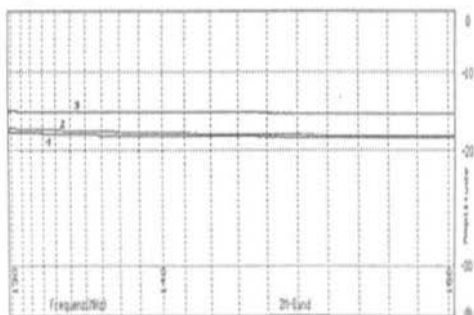

Fig.4 Measured voltage over frequency for: 1) AAZ15; 2) OA90; 3) OA5
If you are interested in higher frequencies you should definitely look at DJ4GC's article (1). According to this the limit of reliability of a normal germanium point-diode is reached at around -50dBm. It can be used up to measurements of 500MHz or so. A sensitivity check can be made by connecting the oscillator output direct without sample object to the measurement head input. A comparison of several diodes of the same type gave astonishingly small difference in amplitude characteristic, mainly less than 1dB. On the other hand, with different types variations were noticed throughout. Thus with the OA5 there was around 3dB more voltage than with the diodes AAZ15 and OA90 (Fig.4). The popular SHF diode 1N21 gave values similar to the OA90.